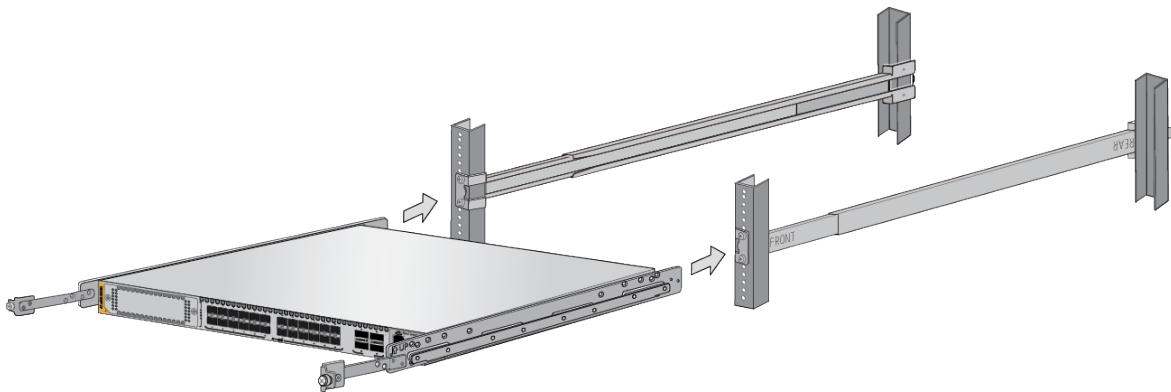

Figure 118. Sliding the Inner Rails on the Switch into the Outer Rails
1. Install the switch in the sliding rack by sliding the inner rails into the outer rail grooves. Refer to Figure 118.